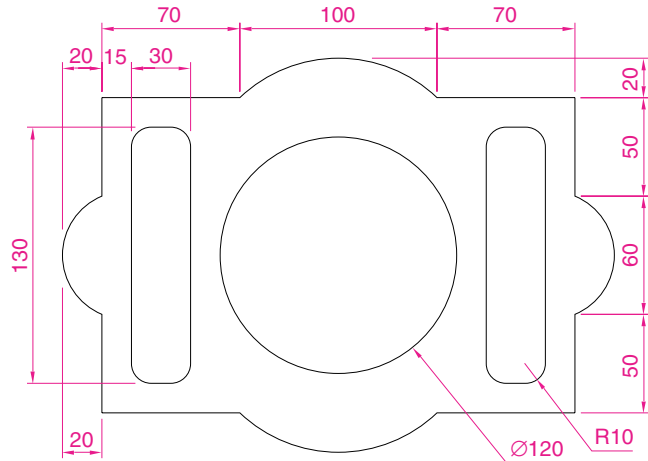

Fig. 6.45 Exercise 4
4. Construct and dimension the drawing in Fig. 6.45.